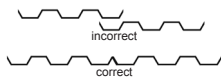
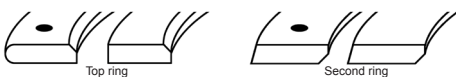

Figure 1
Figure 2
10. Install the rings on the piston, starting with the oil control ring (only in case of 4-stroke). Please check for the proper installation of the oil ring expander. See figure 1 for clarification. Then, if applicable, install the second compression ring and finally the top ring. PLEASE NOTE: rings have normally a top side and a bottom side. The top side has a marking, this marking should be facing up. Please check figure 2.